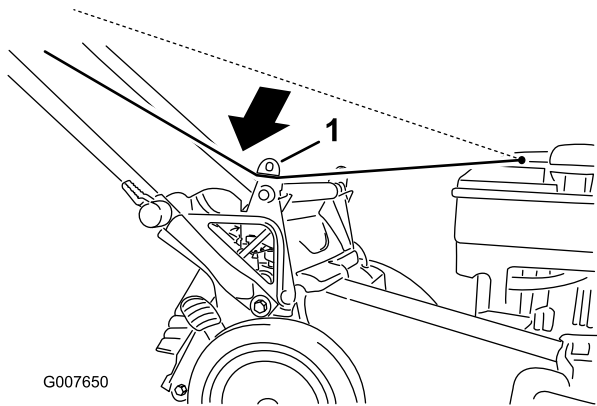

Figure 4
1. Route the starter rope around the lower rope guide (Figure 4).